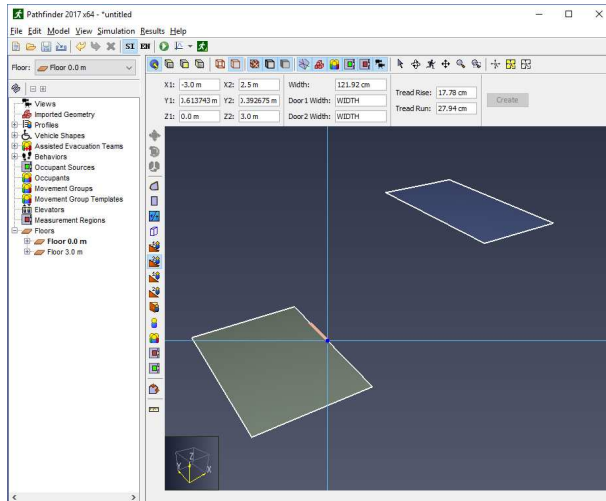
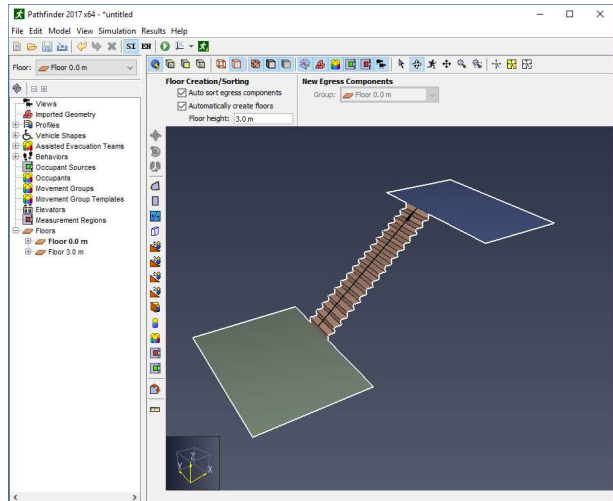

Figure 60. Click the first edge
Figure 61. Click second edge to finish stairs
- b. **Two-click:** Set the desired stair width. Move the cursor over the first edge, and a preview line similar to a thin door will appear previewing the top or bottom of the stairs. Single-click to set the point. (Figure 60) Now move the cursor over the second edge. Now a preview of the stairs will appear connecting the first edge to the second. Single-click on the second edge to create the stairs (Figure 61).